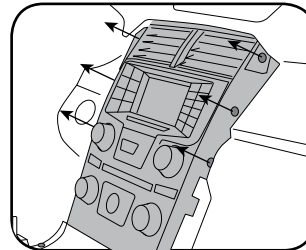

Fig. 1.5
5. Remove the six 7mm screws securing the radio bezel. Pull outward and disconnect the single wiring harness from the back. (Fig. 1.5)